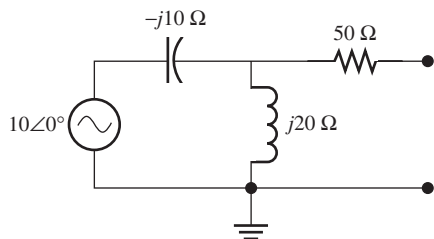

FIGURE P6.47 Circuit for Problem 6.47.
6.47 (A) Find the Norton equivalent circuits for the circuit shown in Figure P6.47.